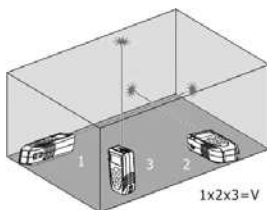

Fig. 6: Example of volume measurement
3. Press the key to perform the first measurement (length) of the surface (see Fig. 6). The corresponding value appears on the first partial display. The symbol appears on the display with side "1" flashing
4. Press the key again to perform the second measurement (width) of the surface (see Fig. 6). The corresponding value appears on the second partial display. The value of the corresponding area is shown in the resulting display. The symbol appears on the display with side "2" flashing
5. Press the key again to perform the third measurement (height) (see Fig. 6). The total value of volume is shown in the main resulting display